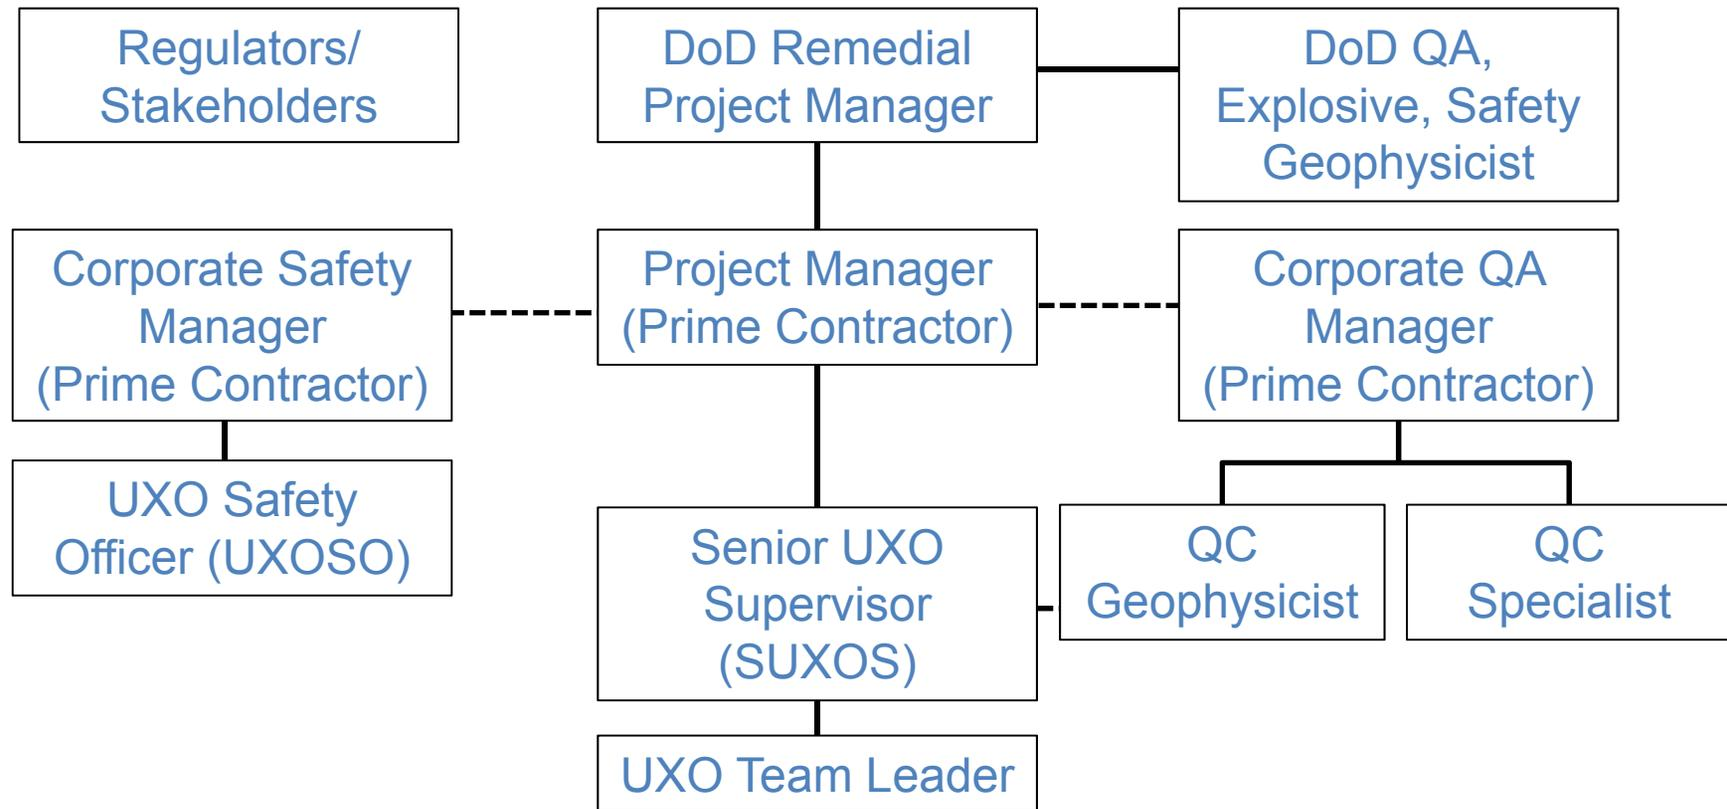

Figure 3-2: ESO Organization
- Figure 3-2: Explosives Safety Operations organization